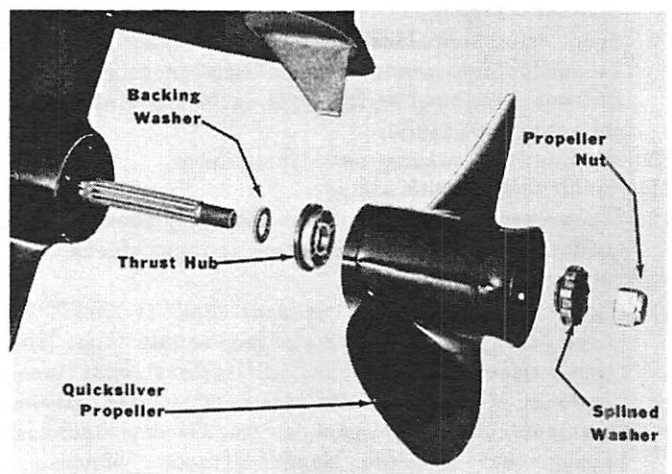

Figure 15. Propeller Installation
INSTALLING PROPELLER (Figure 15)
2. Apply thin coat of MULTIPURPOSE Quicksilver Lubricant (92-35226) on splines of propeller shaft. (Figure 15)